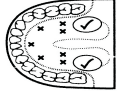

Figure 7
- a) *Oral Mode*: Place thermometer under tongue as indicated by " " position shown in Figure 7. Close your mouth and breathe evenly through the nose to prevent the measurement from being influenced by inhaled/exhaled air.